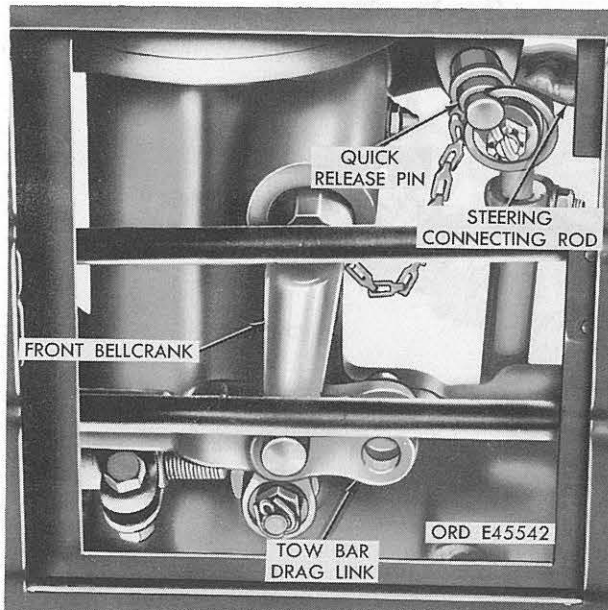
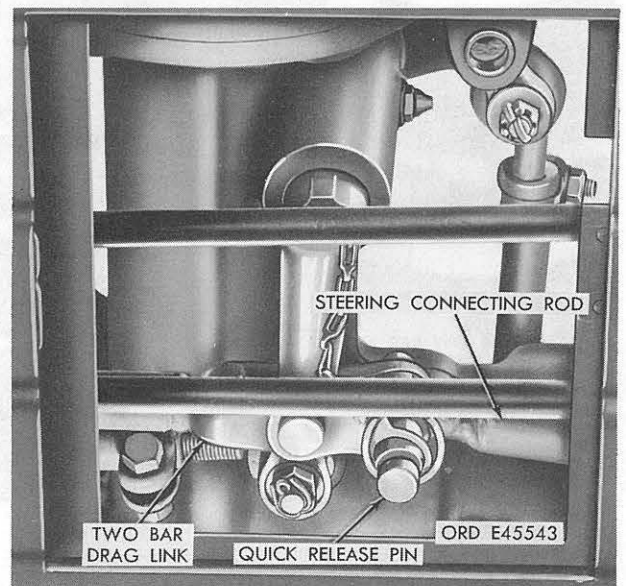

Figure 38. Steering access opening lid removed showing two-wheel steering connected.
Figure 39. Steering access opening lid removed showing four-wheel steering connected.
c. Connecting Four-wheel Steering (fig. 38). Turn steering wheel in direction necessary to place front wheels to a straight ahead position. To change from two- to four-wheel steering, pull out quick release pin securing front end of steering connecting rod to anchor. Swing the end to align with hole through rear end of tow bar link (fig. 39) and insert pin. The pin is held in place by a spring-loaded ball. The quick release pin on the M274 vehicle is not chained to the front bellcrank.
d. Disconnecting Four-wheel Steering. To change from four- to two-wheel steering, pull out quick release pin securing the front end of steering connecting rod to tow bar drag link (fig. 39), swing the end of the lever to right to align with hole in anchor (fig. 38), and insert pin.